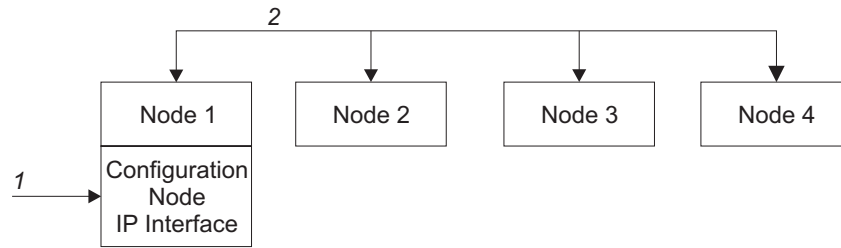

Figure 8. Configuration node
The figure below shows an example cluster containing four nodes. Node 1 has been designated the configuration node. User requests (1) are targeted at Node 1. This may result in requests (2) being targeted at the other nodes in the cluster, and data being returned to Node 1. See Figure 8 on page 15 for more information.